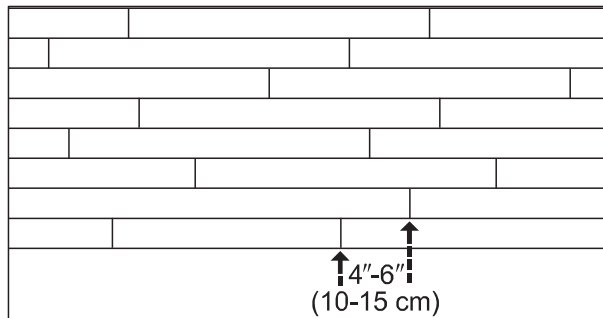

Figure 3 – Preferred Alignment
- Be attentive to staggering the ends of the boards at least 4"-6" (10-15 cm) when possible, in adjacent rows (**Figure 3**). This will help ensure a more favourable overall appearance of the floor.
- End-joints of adjacent rows should be staggered a minimum of 4"-6" (10-15 cm) when possible, to ensure a more favorable overall appearance (**Figure 3**).